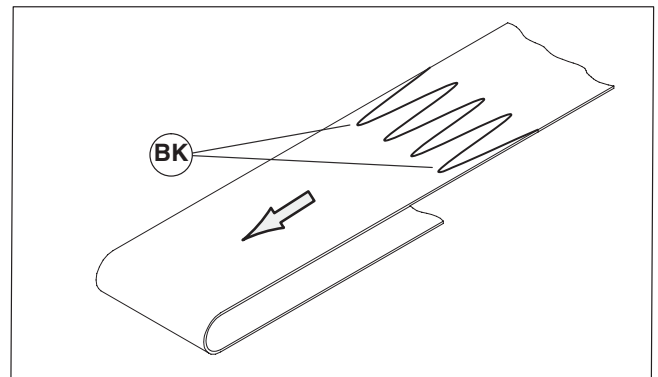

Figure 32
1. Orient the conveyor belt so that the splice leading fingers (Figure 32, item BK) point in the direction of belt travel, indicated by the label (Figure 31, item BJ).